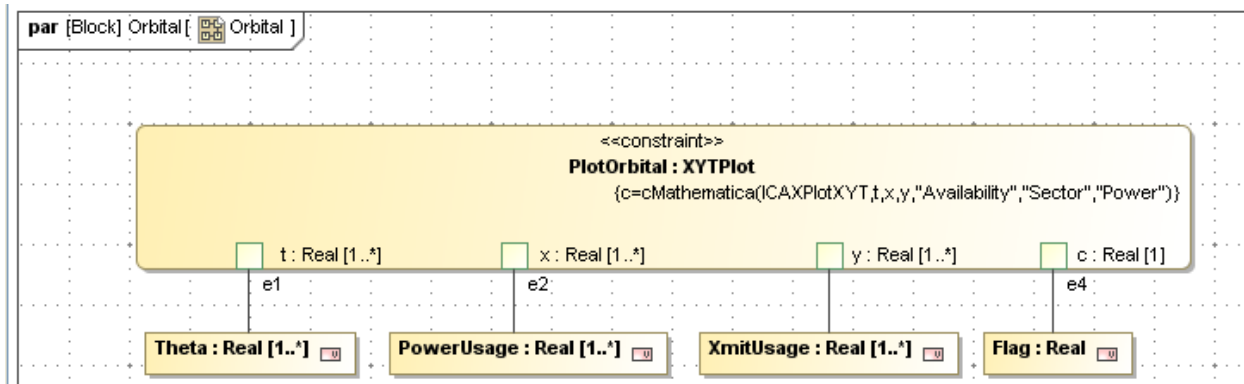

Figure 6.7 Parametric diagram for Orbital
8. Create a second parametrics diagram inside Orbital, as shown in Figure 6.7. This diagram exists to plot the values of the PowerUsage and XmitUsage against Theta during ParaMagic execution.